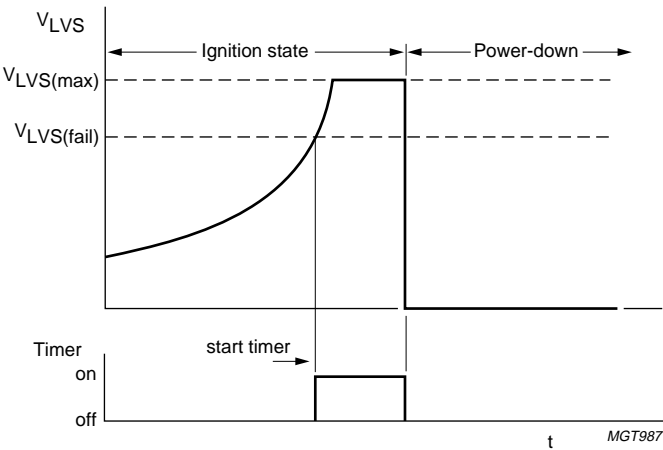

Fig.6 Failure mode during ignition.
**Lamp failure mode****DURING IGNITION STATE (see Fig.6)**